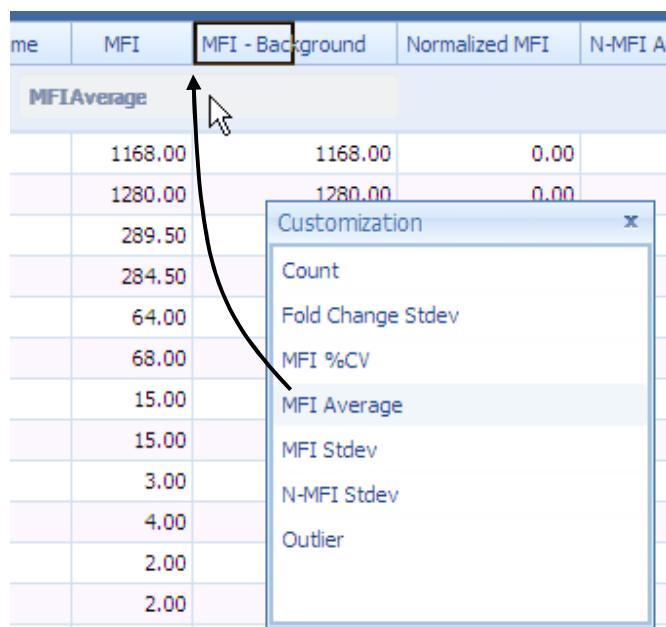

Figure 6.3 Add data type to the data grid
2. To add a data column, select one of the data types and drag & drop it onto the data grid (Figure 6.3)